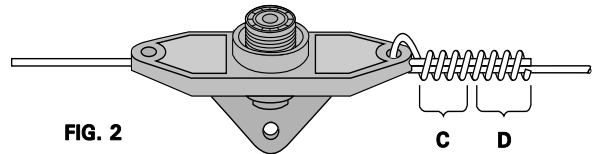

FIG. 2
4. Hold pliers at C in Figure 2 and solder at D.